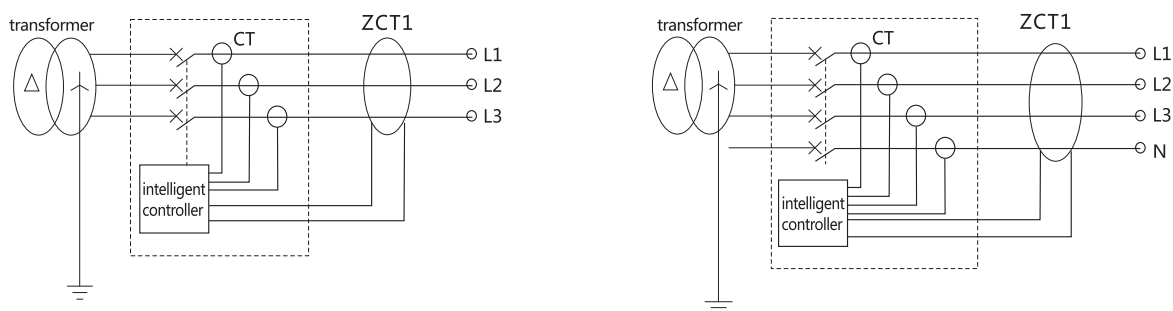

Figure 87. Leakage protection detection principle
12.17.3 Leakage protection detection principle shown in Figure 87.